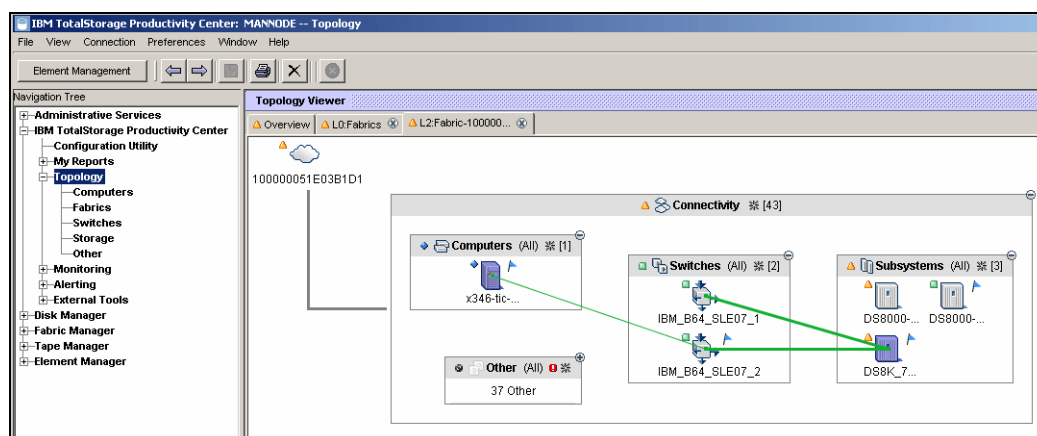
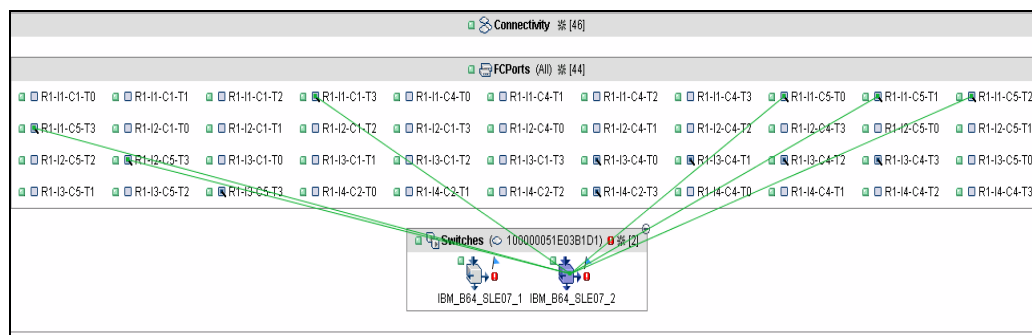

Figure 12-26 Topology view of physical paths between one host and one DS8700 system
Figure 12-27 Topology view: Detailed view of the DS8700 host ports assigned to one of its two switches
If Out of Band Fabric agents are configured, TPC-BE can display physical paths between SAN components. The view consists of four windows (computer information, switch information, subsystem information, and other systems) that show the physical paths through a fabric or set of fabrics (host-to-subsystem or subsystem-to-subsystem). To display the path information shown in Figure 12-26 and Figure 12-27, perform the following steps:
4. Press Ctrl and click any additional devices to which you would like to display the physical path (Figure 12-26).
5. To get more details about the connectivity of dedicated systems, as shown in Figure 12-27, double-click the system of interest and expand the details of the system view.
In Figure 12-26, the display of the Topology view points out non-redundant physical paths between the host and its volumes located on the DS8700 system. Upgrading TPC-BE with additional TPC licenses will enable TPC to assess and warn you about this lack of redundancy.
In Figure 12-27 on page 292, the display of the Topology viewer points out that the switch connectivity does not match one of the recommendations given by the DS8700 Information Center on host attachment path considerations for a storage image. In this example, we have two I/O enclosures in each I/O enclosure pair (I1/I2 or I3/I4) located on different RIO loop halves (the DS8700 Information Center¹ mentions that “you can place two host attachments, one in each of the two I/O enclosures of any I/O enclosure pair”). In the example, all switch connections are assigned to one DS8700 RIO loop only (R1-I1 and R1-I2).